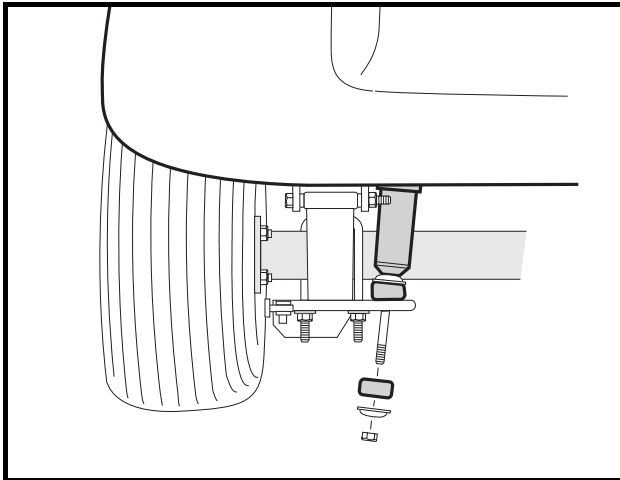

Figure 16-44 Shock Absorber
17. Position shocks in the shock mounts and install cushions, mounting washers and nuts (**Figure 16-44, Page 16-19**). Tighten nuts until cushions expand to be the same diameter as the mounting washers.